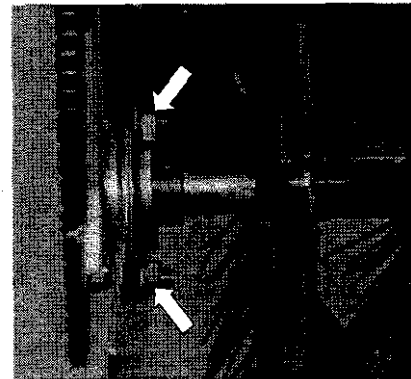

figure 21
10. Remove 3 M8 carriage bolts, lock washers and hex nuts that retain the drive end bearing and flanges (figure 21).